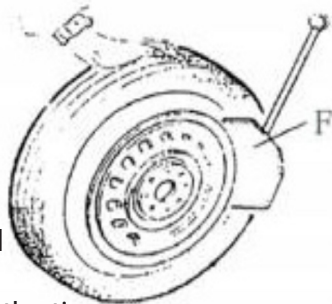

Fig 5
Check that there is no air in the tire. Place the tyre against the rubber cushion (S). Press the clincher (F) against the clincher at approx. 10 mm from the rim edge (Fig. 5). Press the pedal of the clinch press (U)